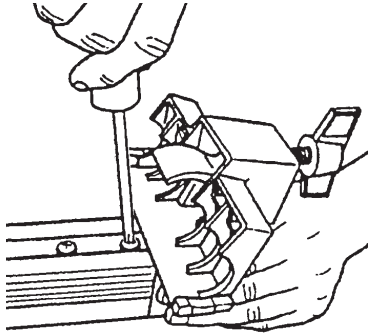

Figure 83
- b. Use a Large Phillips Screwdriver to loosen the Screw nearest the Fence Base, so it is just tight enough to require firm pressure to align the Fence. See Figure 83.